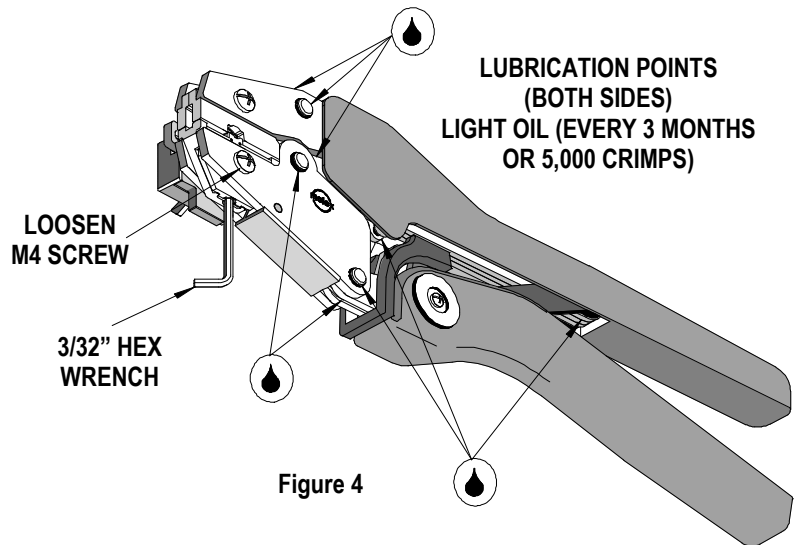

Figure 4
5. If the insulation part of the crimp needs to be adjusted, first loosen the M4 screw on the bottom tool jaw, then insert a 3/32 hex wrench (supplied) into the bottom of the lower die. See Figure 4. A clockwise (CW) rotation decreases insulation crimp while a counter-clockwise (CCW) rotation increases insulation crimp. After adjusting retighten the M4 screw.
3. Make certain all pins; pivot points and bearing surfaces are protected with a thin coat of high quality machine oil. Do not oil excessively. This tool was engineered for durability, but like any fine piece of equipment it needs cleaning and lubrication for a maximum service life of trouble-free crimping. A light oil, such as 30 weight automotive oil used at the oil points shown in Figure 4, every 5,000 crimps or 3 months will significantly enhance the tool life and ensure a stable calibration.